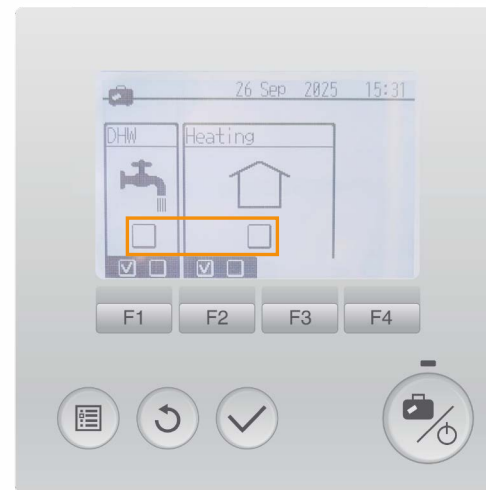

figure 11
3. Using F1 and F2, ensure the screen has the same checkboxes ticked, (figure 11).